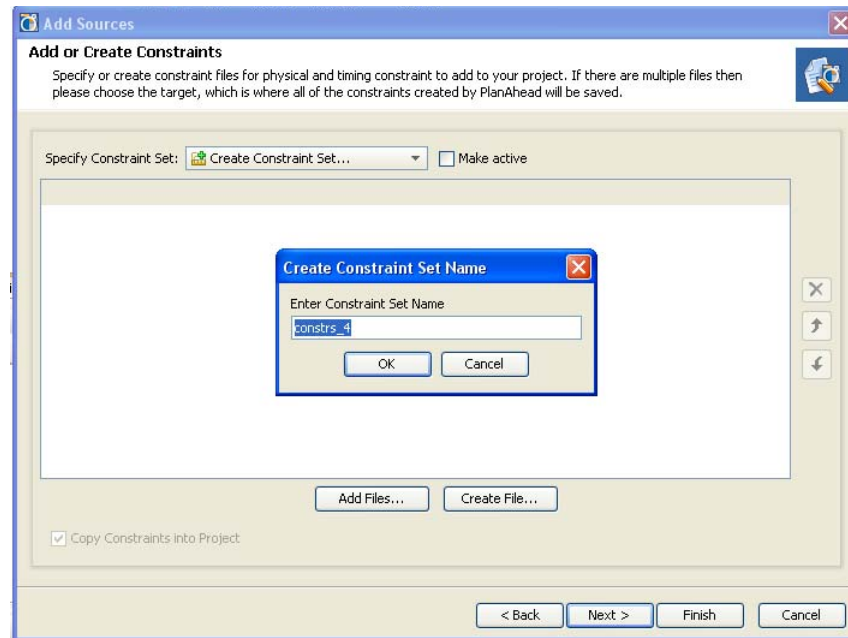

Figure 3-21: Add Constraints Dialog Box
Figure 3-21, page 59 shows the Create Constraint Set Name dialog box in the Add Sources command.
1. In the **Add Constraints** dialog box, use the **Specify Constraint Set** field, select the **Create Constraint Set** command, and enter a name, as shown in Figure 3-21.